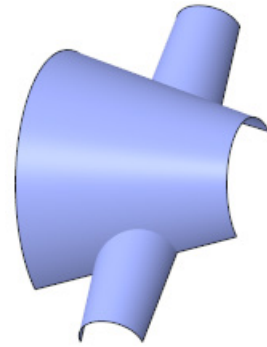

Figure 15-106 Surface model after creating the third feature
2. Select the **FRONT** datum plane and exit the **Mirror** dashboard by choosing the **OK** button. A mirror copy of the second feature is created, as shown in Figure 15-106.